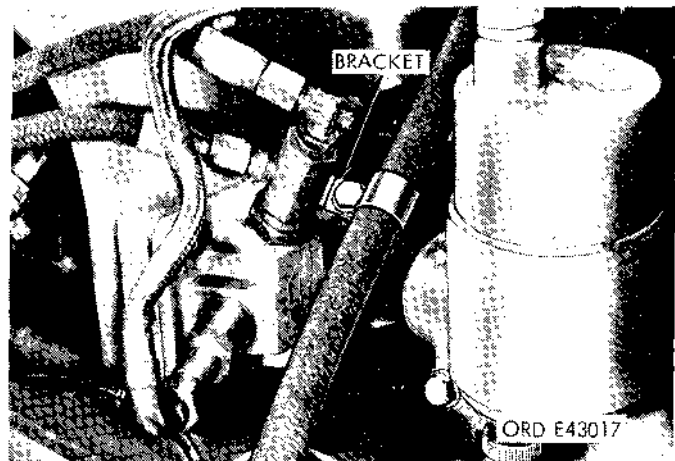

Figure 2-58. Disconnecting lubrication line bracket at manifold heater housing—diesel.
(2) Remove the bolt (fig. 2-58) securing the lubrication line bracket to the manifold heater housing.
(2) Use the bracket and bolt (fig. 2-58) to secure the line at the manifold heater housing.
(3) Connect the lubrication line (fig. 2-58) to the turbocharger.